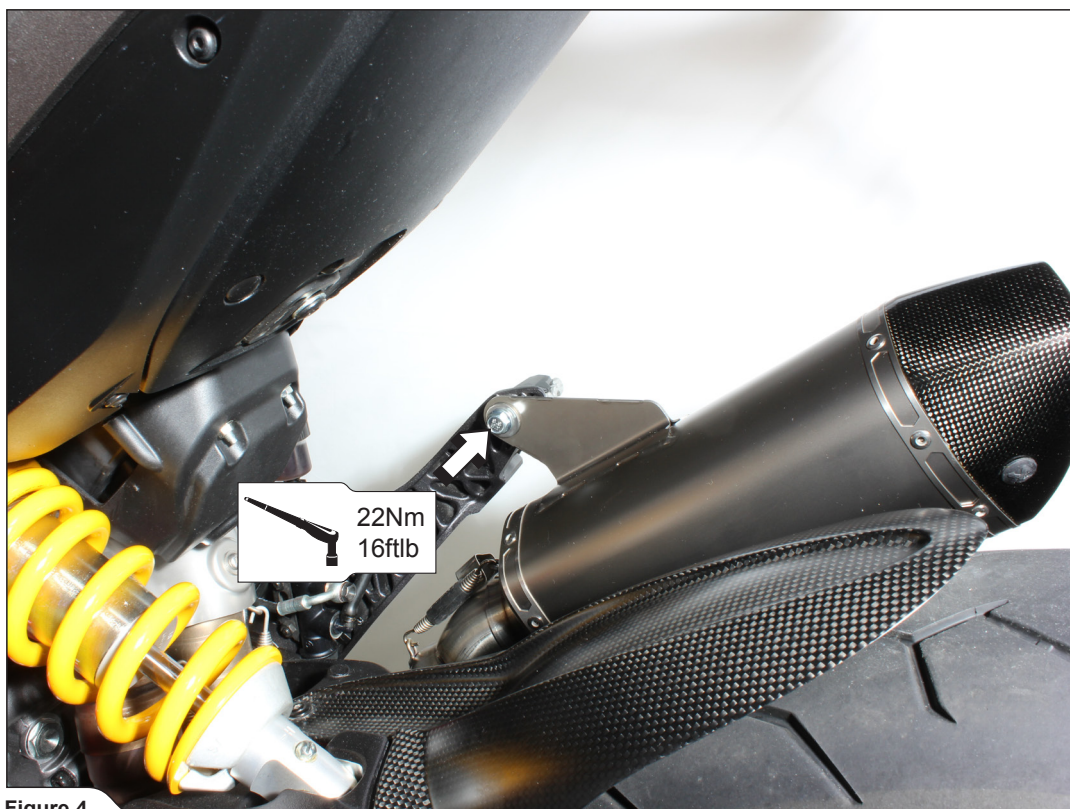

Figure 4
3. Align the muffler in respect to the motorcycle and tighten the muffler's bracket bolt and stock clamp to the specified torque (**Figure 4, 5**).